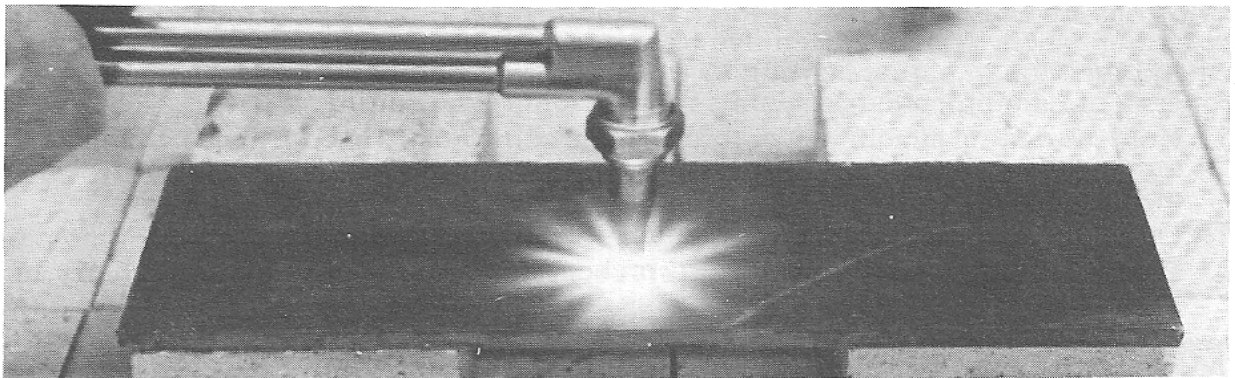

Figure 28, Starting to Pierce
1. Preheat a small spot on the base metal to a bright cherry red (see Figure 28).